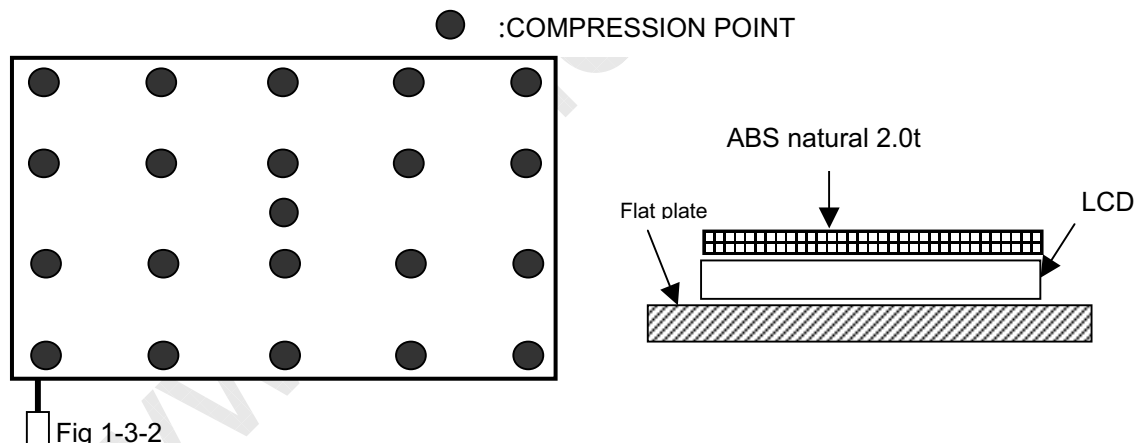
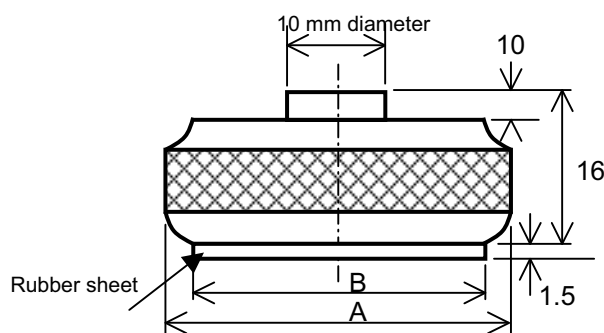

Fig 1-3-2
Fig 1-3-3
|                                         | No Destruction with the force 294.2 N (30 kgf, 30 mm in diameter) to the back of the display surface at the vertical direction |                                                                                                         | Fig 1-3-2Fig 1-3-3                                                                                |
- (b) Compression condition: Time 3 sec, Tool diameter: 16 mm in diameter (refer to Fig 1-3-3)
- (a) Compression point : 21 points ( refer to Fig 1-3-2 )
- (b) Compression condition : Time 3 sec, Tool radius: 30 mm in diameter ( refer to Fig 1-3-3)